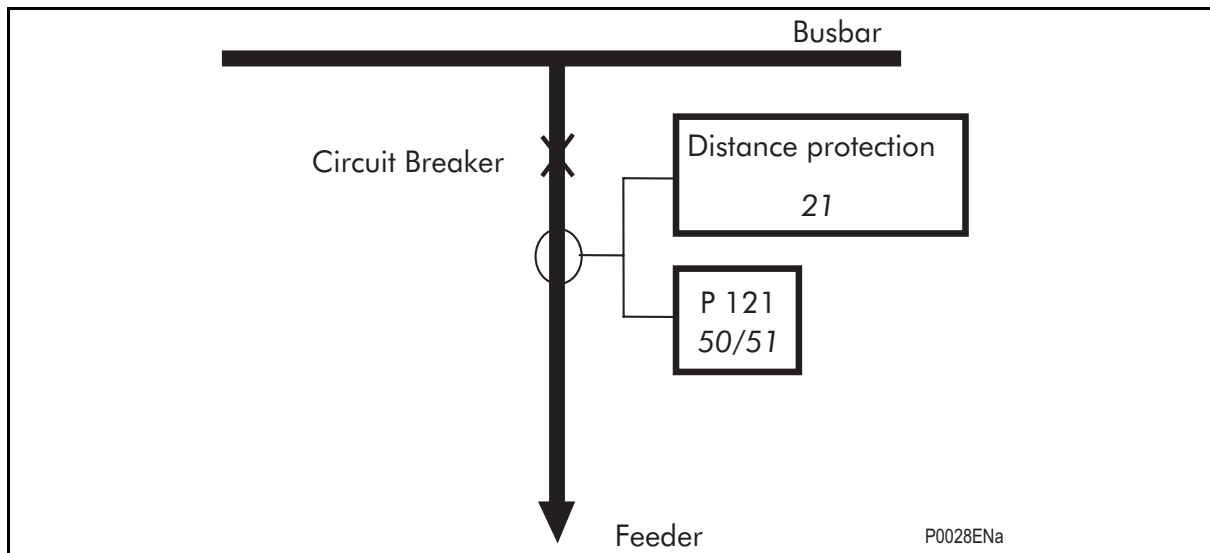

FIGURE 9 : ASSISTANCE OF REMOTE PROTECTION BY A MiCOM P121 PROTECTION
**MiCOM P121, P122** and **P123** protection can be used as a stand-by of a high voltage remote protection (Figure 9). The function 51/51N of the **P121, P122** and **P123** needs to be programmed, either in constant time or in dependent time according to the type of selectivity required. The value of the hold time of  $I>/I_e>$  is adjusted to a value compatible with the thresholds Z2 or Z3 (2nd and 3rd remote protection zone).